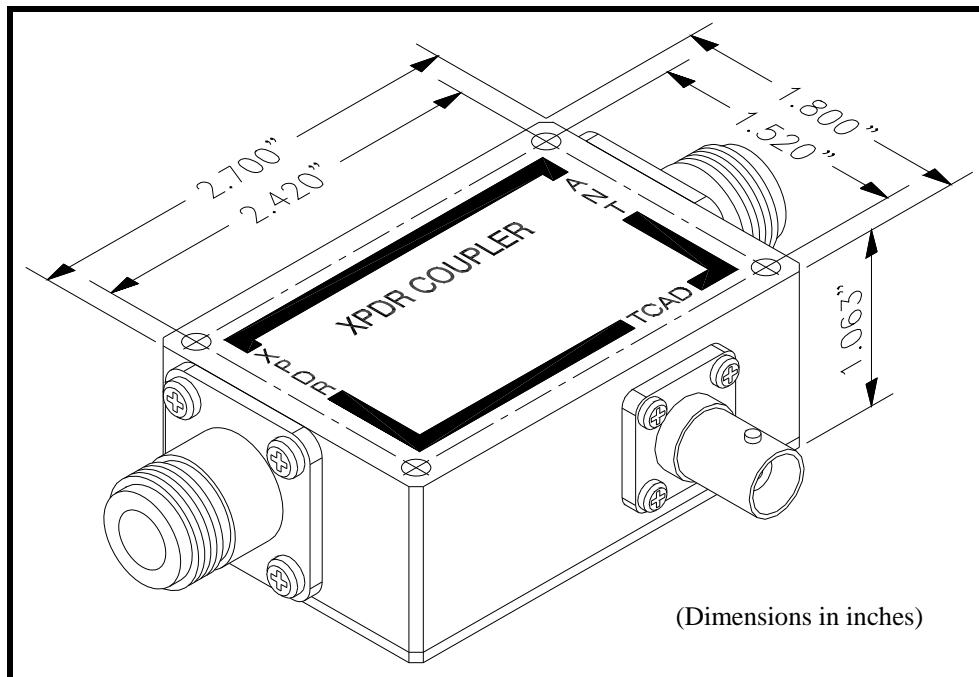

Figure 12: Transponder Coupler
- C. See Figure 12 below for mounting dimensions.